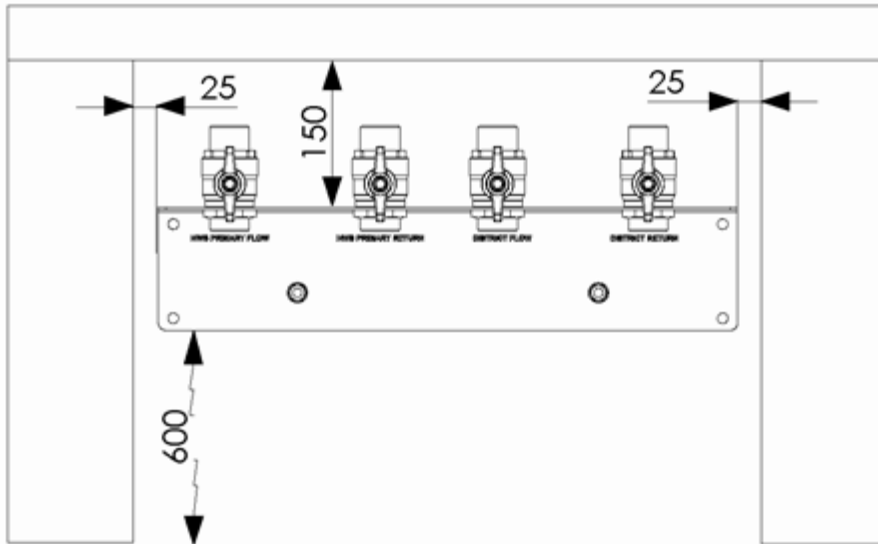
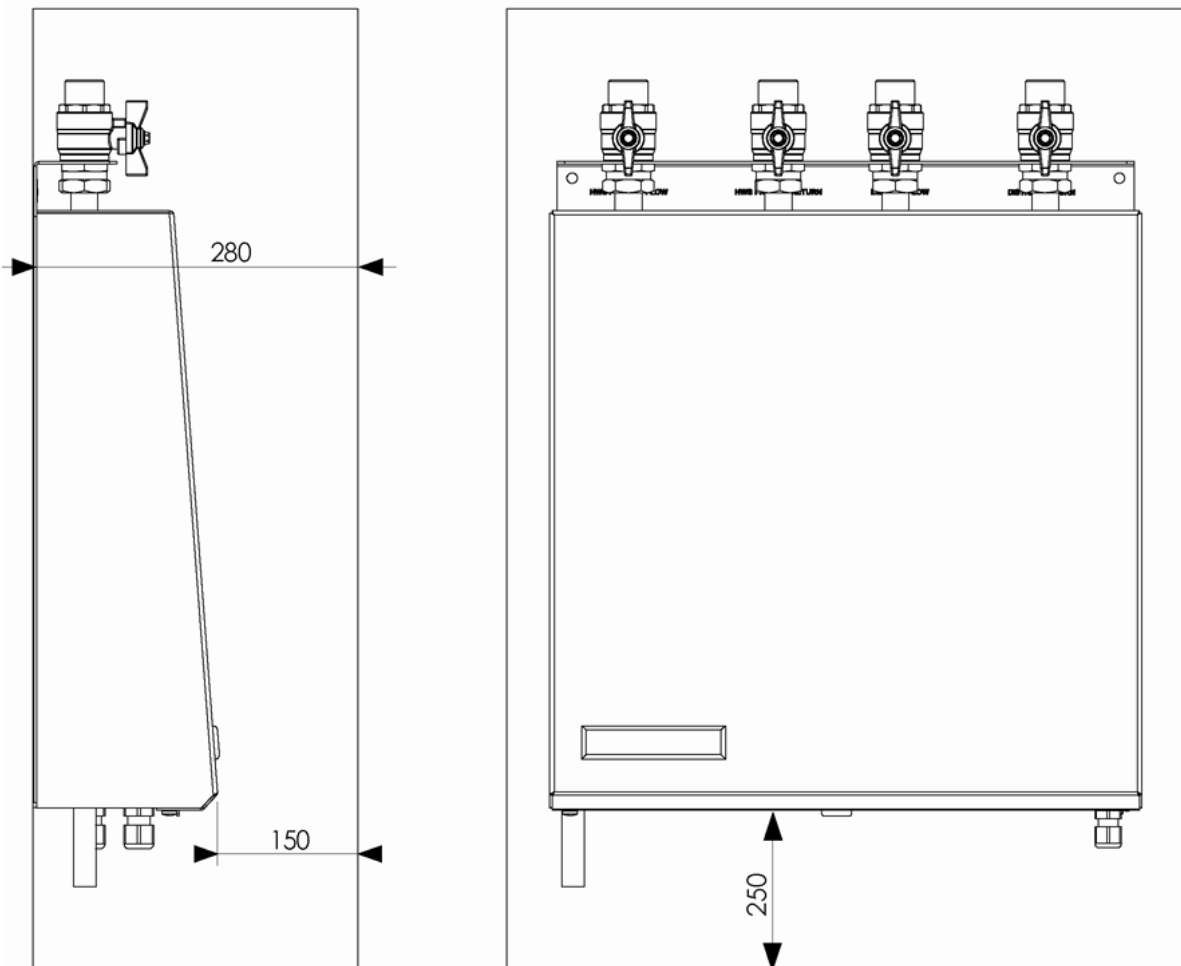

Fig 6. Fitting the first fix rail (Minimum clearance)
Fig 7. Minimum Clearances
- # Access to associated controls and components must be available to provide for the servicing and maintenance of the system. Please refer to Fig 6 and Fig 7 for minimum clearance requirements.
1. Fix the 1st fix rail to the wall using suitable fixings and ensure the rail is level (Fig. 6).